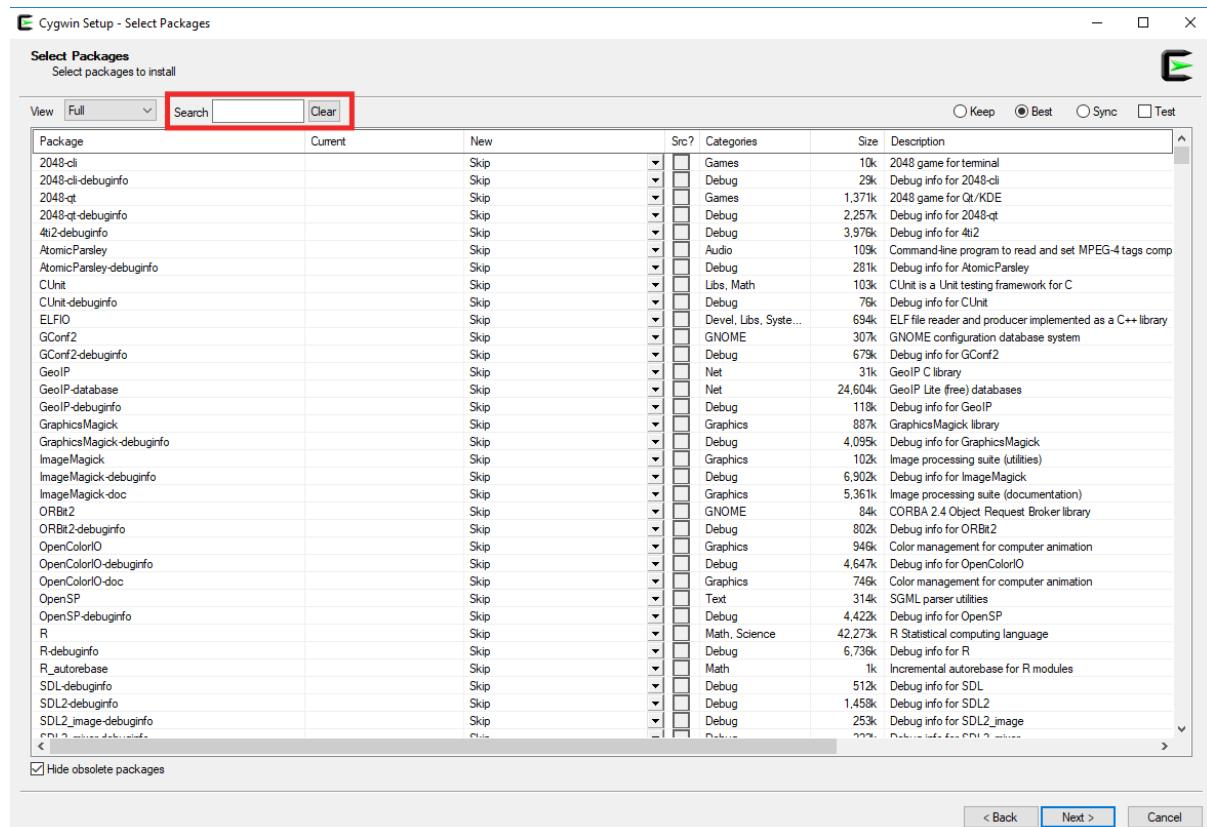

Figure 87. Select Packages window – Full view
4. The complete list of packages that you can install will appear (Figure 87). In the **Search** box, select the specific packages that you want to install.